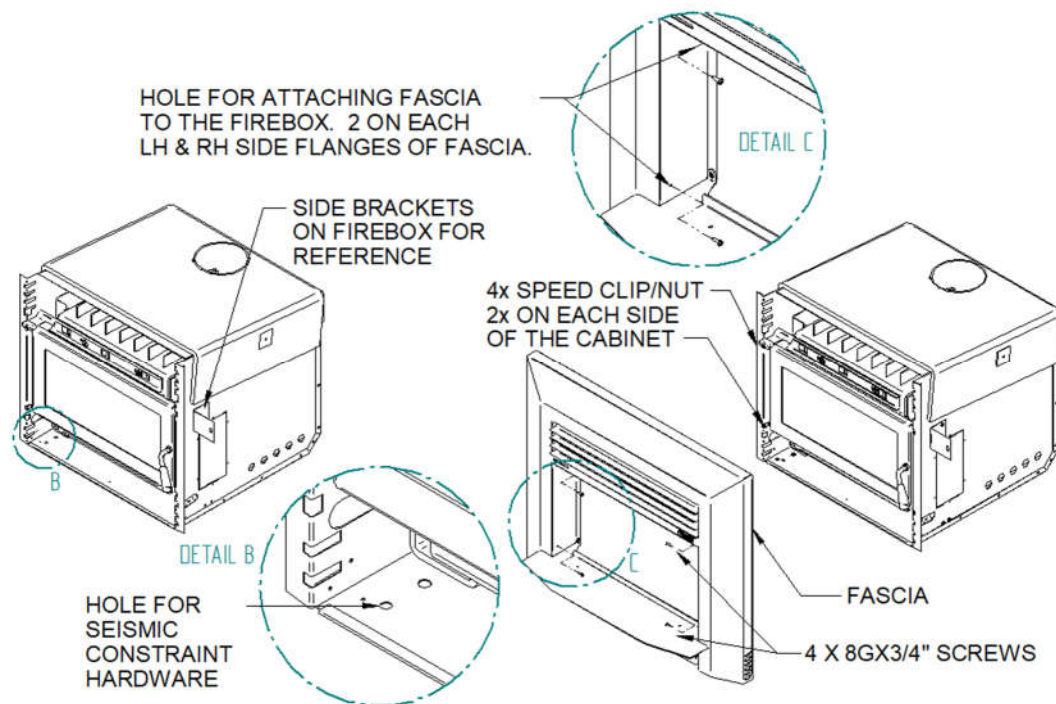

Fig. 7 - Seismic Holes, Side Brackets & Fascia Mounting holes
- Slide the case into the cavity and adjust its position so that flanges of the two side brackets are in line with the face of the fireplace surround. Refer Fig. 7
- In New Zealand, safety standards require that the woodfire be secured to prevent shifting in the event of an earthquake. **To provide seismic restraint**, screw the case to the base of the fireplace recess with at least two 6mm masonry anchors (Dynabolts) or equivalent. (Fasteners not supplied with the Rangitata firebox). Refer Fig. 7 for bolt location